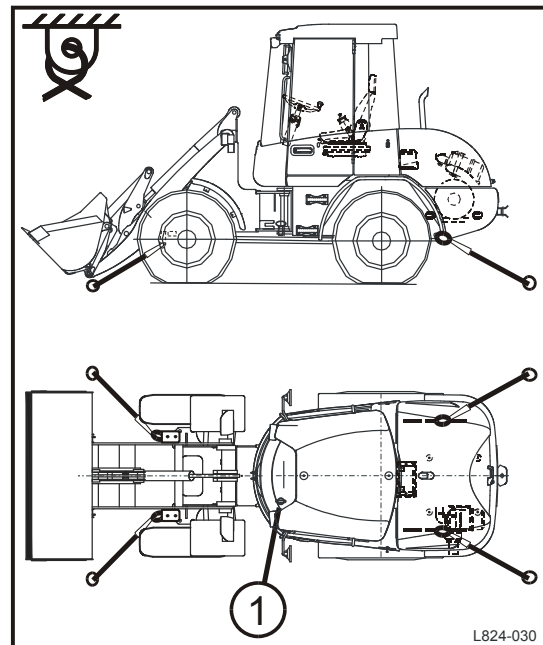

Fig. 30 Lashing for transport
- Attach the excavator to the points illustrated (fig. 30) in the correct manner.